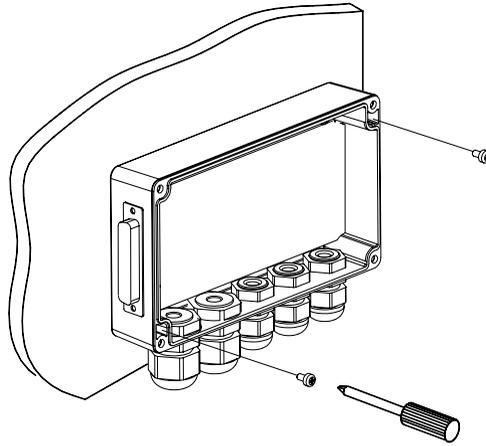

Figure 4.3 Mounting the C-BOX 300
C-BOX 300 can be installed to operate in different positions. The two screw holes inside the housing of the C-BOX 300 are for mechanical fixture (Figure 4.3).
2. Align the C-BOX 300 and insert two screws and screw them into the panel until tight (see Figure 4.3).